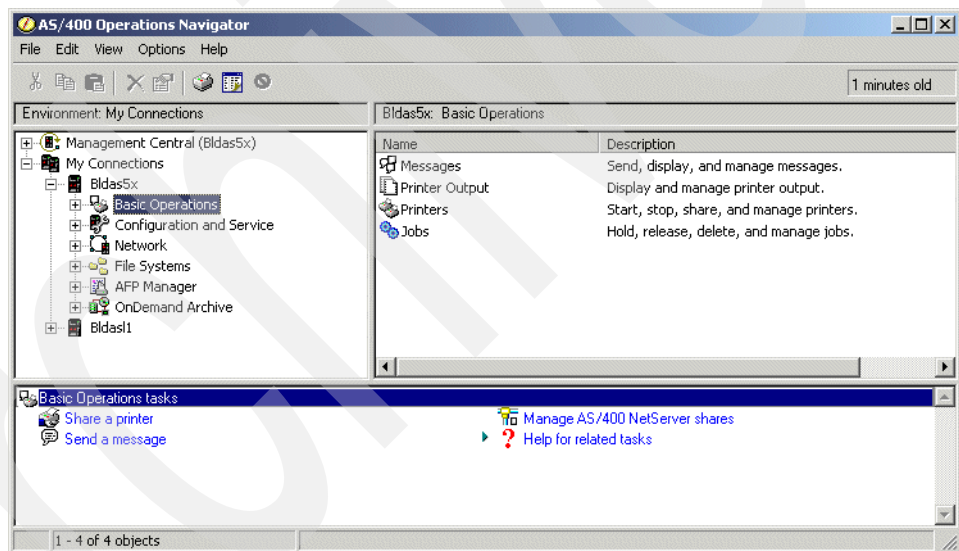

Figure 115. Selecting Basic Operations
3. Select **Basic Operations** in the Operations Navigator window or expand the branch (Figure 115).